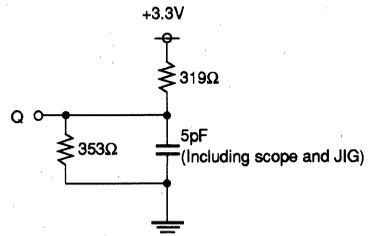

Fig. 2 Output load for ten, tdis
24. When enable and disable time (t_{en}, t_{dis}) are measured, Output loading is specified with CL = 5pF as in Fig. 2.